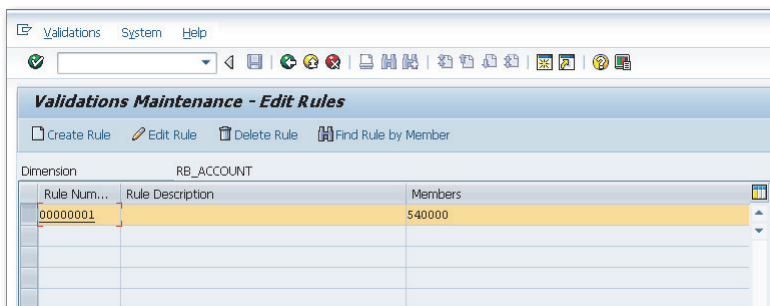

Figure 6.34 Creating a Validation Rule—Part E
6. You'll now see the validation rule you created (Figure 6.34).